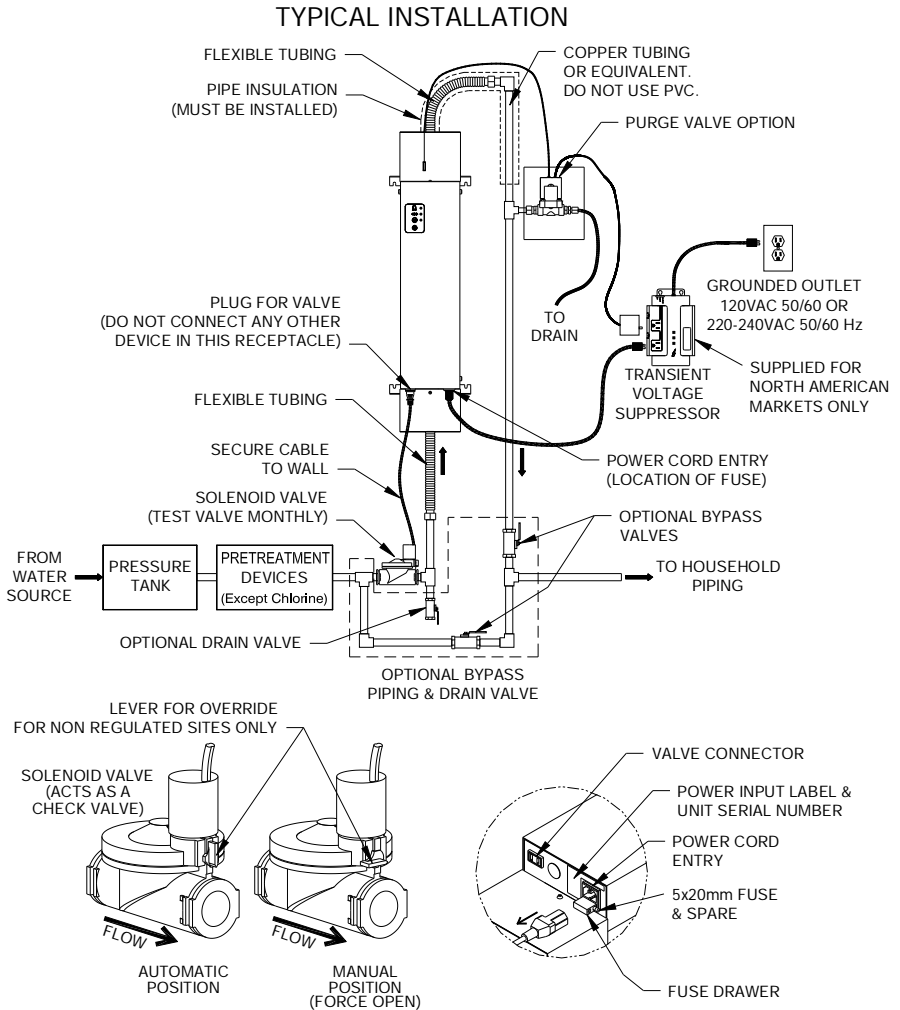

Figure 1B
There are two standard operating voltages for the Hallett unit. The unit may be 120Vac or 220-240 Vac. Please refer to the power input label located near the power cord entry of the unit. See Figure 1B. For convenience the front cover of the manual should also contain model number and operating voltage.
The Hallett requires 1" male NPT fittings for the hose connections and also the solenoid valve. These fittings and any piping compatible with the plumbing should be on hand before you begin installation. See Figure 1B and make a list of all necessary components including solder, paste and thread sealant. Bypass piping and valves that isolate the unit are optional, as is a drain valve for draining the unit.
Step 2: If you have decided to install an optional bypass line and drain, you may begin to install these fittings at this point. See Figure 1B for more information on how to connect optional bypass piping and drain.
Step 2: Plug the female end of the power cord into the power entry module located on the underside of the front panel. Note that the power entry module contains the only fuse for the unit, which can be accessed by pulling out the sliding fuse drawer. The power cord must be removed before changing the fuse. See Figure 1B